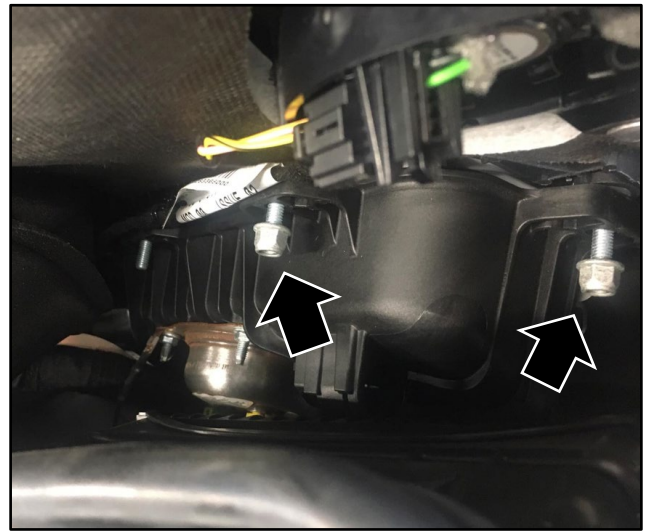

Figure 4
5. If any of the locking nuts are not installed correctly (refer to Figure 4) go to Part B: Torque the Locking Nuts to the Correct Specification.